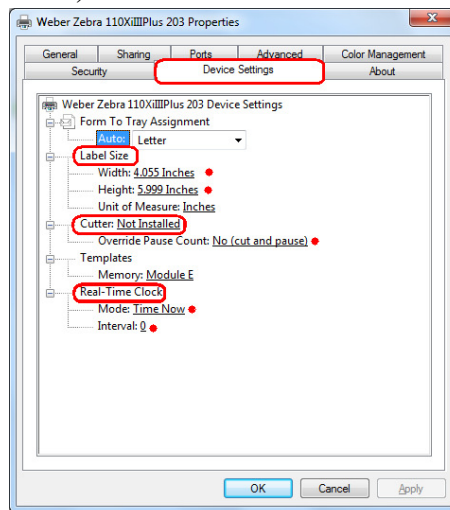

Figure 21
21. **Printer Properties – “Device Settings” Tab** - takes you to the printer’s device settings for Label Size, Cutter(if your model printer supports it), Template Memory(if your model printer supports it), and Real-Time Clock (RTC)(if your model printer supports it) settings that can be setup in the driver to send down commands to the printer for each label design if needed, as shown in (Figure 21) below:
22. Click **OK** to finish setting up your printer. (Figure 21)